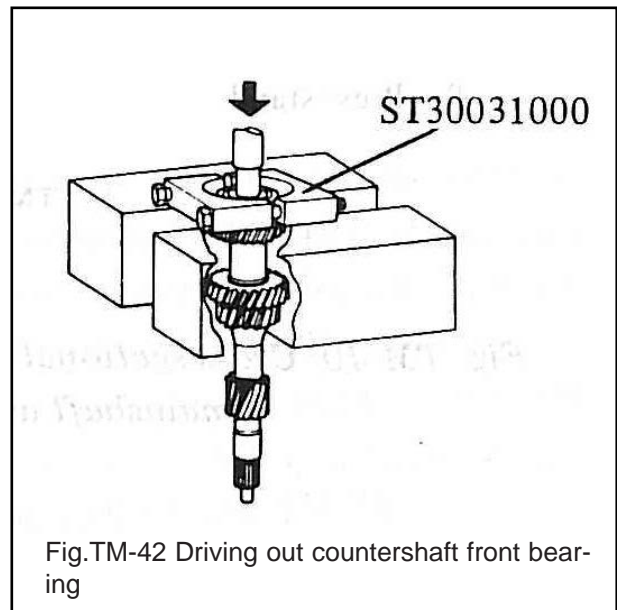

Fig.TM-42 Driving out countershaft front bearing
1.Remove countershaft front bearing using Bearing Puller ST30031000 and a suitable press. See Figure TM-42.